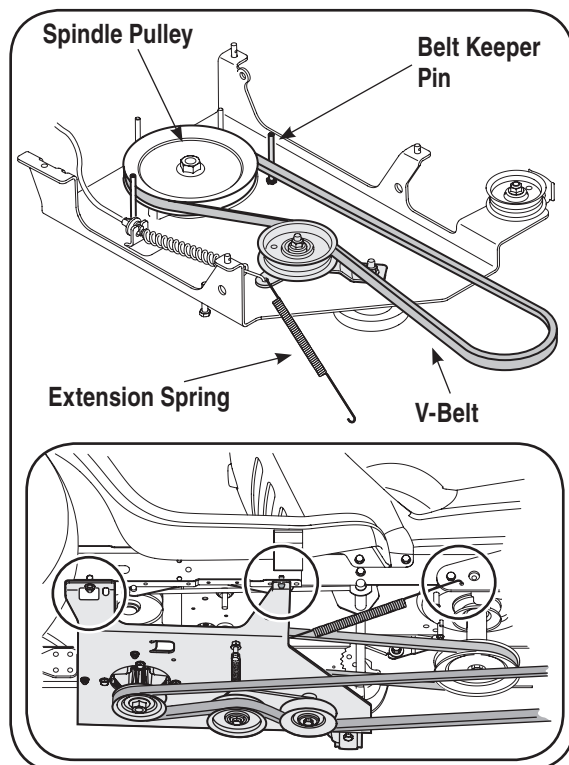

Figure 11
3. Locate v-belt part No. 754-0498 and the extension spring (Part No. 732-04237, which is .50" wide x 12" long) packaged with the loose parts in this carton. See Figure 11 for reference.
Route the belt around the spindle pulley, inside of the belt keepers and to the inside of the idler pulley. The spring will connect to the Idler bracket but you may install this once the undercarriage is mounted. Otherwise it could fall off or get in the way in the following steps. If you wish to connect this later, retain the spring for later installation. See the Figure 11.
Lift the undercarriage assembly up, inserting the weld pins on the assembly up through the aligning holes found along the tractor's frame rails. Fasten with hairpin clips and flat washers removed earlier. See inset image in Figure 11.
3. Connect the extension spring found in your units loose parts that was mentioned earlier. This spring connects to the idler bracket on the undercarriage assemble and the hole on the rear right-hand snow thrower mounting bracket. See Figure 11.
4. Attach the lower auger drive belt by routing it around and through the pulley system as seen in Figure 11.